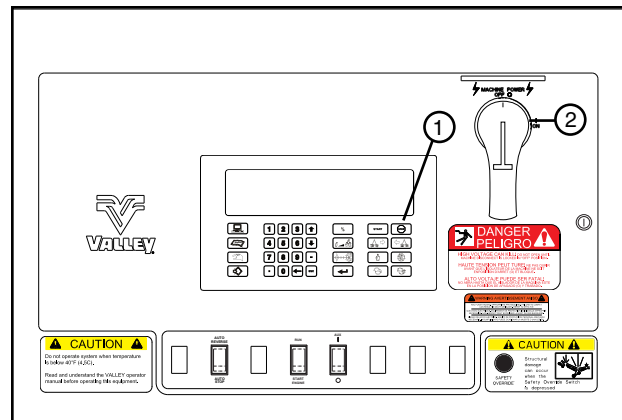

Figure 30-2 AutoPilot Control Panel Shown
1. Press the STOP key. See figure 30-2.
2. Turn the main disconnect switch to the OFF position. See figure 30-2.